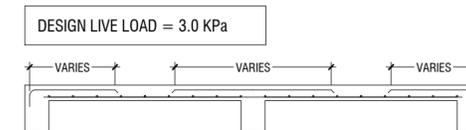

FIGURE 1 (STANDARD SLAB DESIGN)
A. ALL SLAB REINFORCEMENTS SHALL HAVE A CLEAR DISTANCE OF 30mm FROM THE BOTTOM AND FROM THE TOP OF SLABS. (see figure 1).